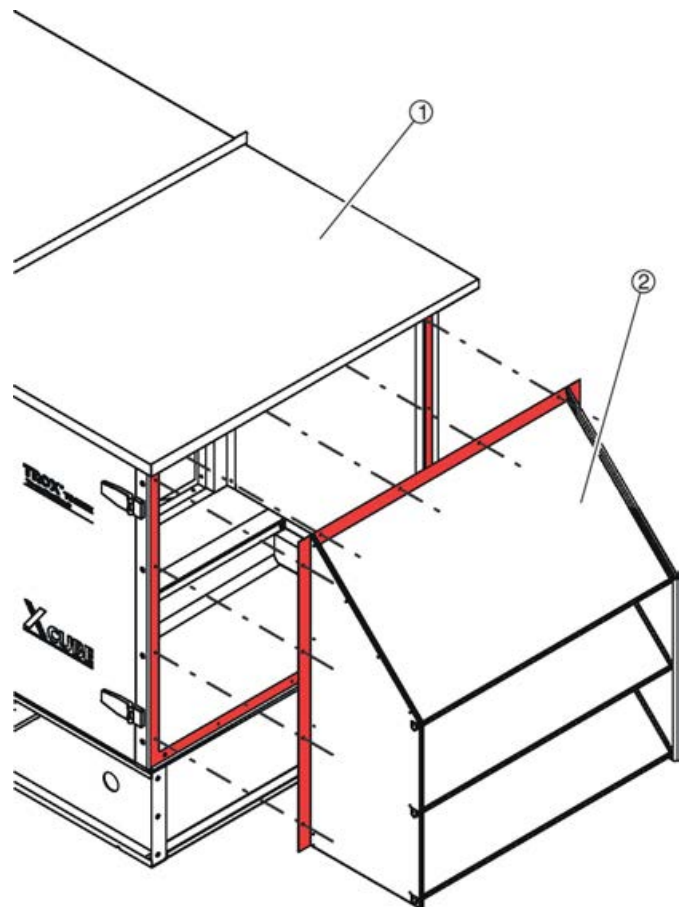

Fig. 24: Positioning the weather hood
1. ▶ Position the weather hood (Fig. 24 /2) precisely on the frame (Fig. 24 /1) such that the screw holes are in a line.